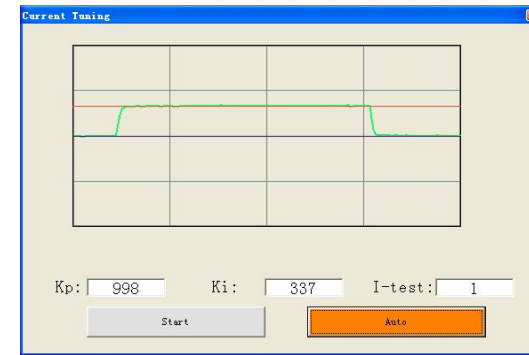

Figure 23: Current Tuning window
large current error, causing poor performances in tracking current setting command in each step like Figure 23. Too large Proportional Gain values will cause oscillations and unstable systems.
**Start button:** The user can start a Step Response test by clicking this button. Start/Restart a Step Response test to get an optimum response like Figure 23, and remember to save the settings to the drive by clicking **Write EEprom** in **parameters configuration** window when finish tuning .